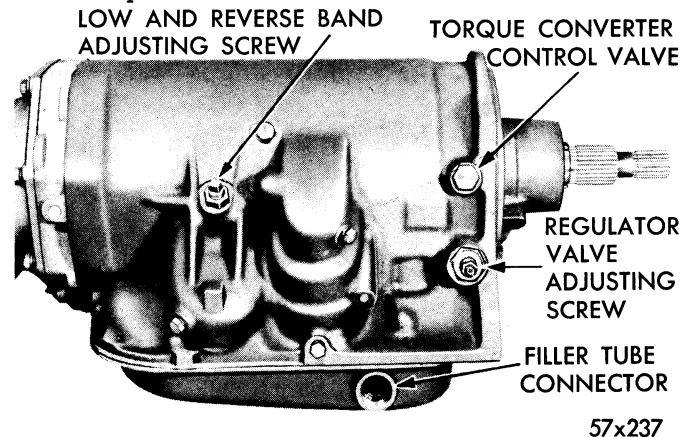
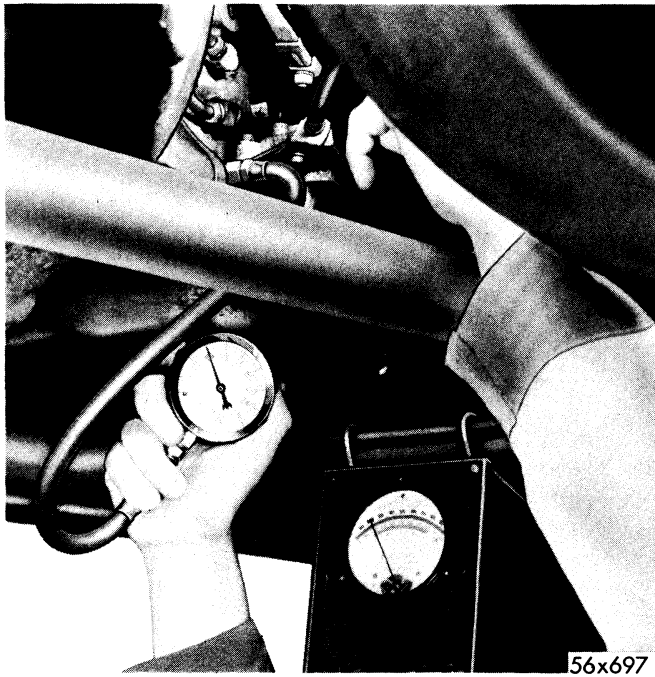

Figure 143—Transmission Case (Right Side)
Figure 144—Checking Line Pressure
8. Governor, line, lubrication and real clutch apply pressure check plugs in transmission case or support (pressure test holes). Refer to Figure 143.
KICKDOWN BAND (FRONT)— The kickdown band adjusting screw is located on the left side of the transmission case, as shown in Figure 143. Using a $\frac{3}{4}$ inch wrench, loosen the locknut. Check the freeness of the adjusting screw in the transmission case. If free, use inch-pound torque-wrench, Tool C-3380 (with extension C-3583). Because of the added leverage afforded by extension C-3583, set the click device on the indicator at 47-50 inch-pounds, then tighten adjusting screw to this torque (disregard multiplication factor notation on extension C-3583). Using a reference mark of chalk or
LOW-REVERSE BAND—The low-reverse band adjusting screw is located on the right side of the transmission case, as shown in Figure 143. Using a $\frac{3}{4}$ inch wrench, loosen the locknut. Check the freeness of the adjusting screw in the transmission case. If free, use inch-pound torque wrench, Tool C-3380 (with extension C-3583). Because of the added leverage afforded by the extension C-3583, set the click device on the indicator at 47-50 inch-pounds, then tighten adjusting screw to this torque (disregard multiplication factor notation on extension C-3583). Using a reference mark of chalk or colored pencil on the corner of the adjusting screw square and the transmission case, back the adjusting screw out exactly $2\frac{5}{8}$ turns. While holding the adjusting screw stationary, tighten the locknut from 35 to 40 foot-pounds torque. If band adjustment is made with transmission removed from vehicle (using wrench, Tool C-3380—without special extension C-3583) the adjusting screw should be torqued from 70-75 inch-pounds torque.
See Figure 143. Install gauge, Tool C-2393 (300 P.S.I.) at this point. See Figure 144.
Remove the pipe plug from the lubrication pressure take-off hole located on the left side of the transmission case. See Figure 143. Install gauge, Tool C-3293 (300 P.S.I.) at this point. With engine running at 800 R.P.M. in neutral, lubrication pressure should be approximately 10 to 30 P.S.I. If the pressure is incorrect, check line pressure and the "Service Diagnosis Chart."